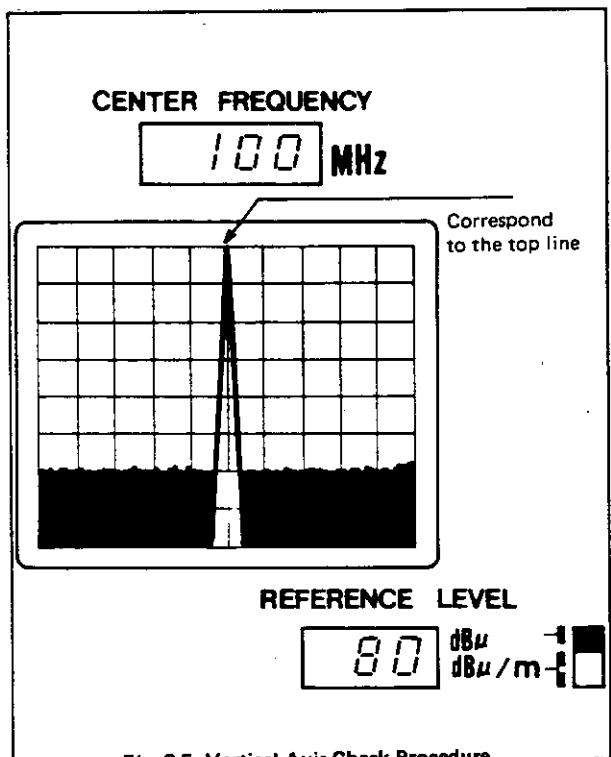

Fig. 3-5 Vertical Axis Check Procedure
- (1) Reset specific controls from the initial settings (Para 3-3-1(3)) as follows:
- (2) Adjust IF GAIN-CAL. to correspond to the peak of 100MHz CAL. signal to the horizontal top line. [Fig. 3-5]